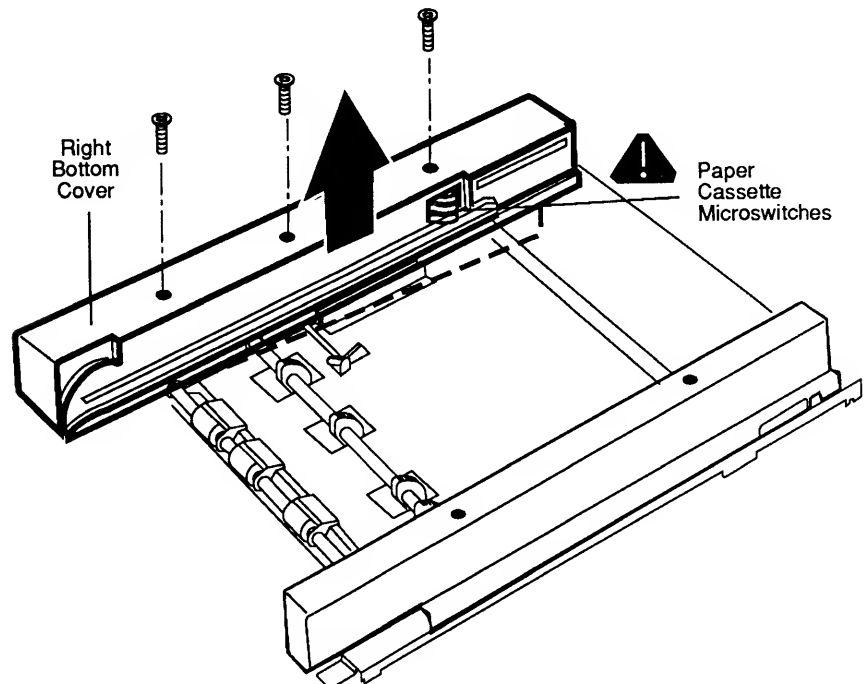

Figure 2-4 Right Bottom Cover
3. Remove the three screws that secure the right bottom cover to the cassette feeder tray (**Figure 2-4**).
4. While pressing in the paper cassette microswitches with your fingers, lift the right bottom cover off the cassette feeder tray (**Figure 2-4**).